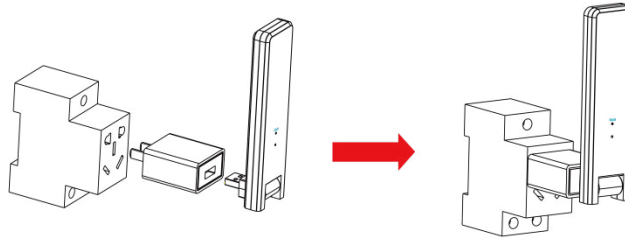

Figure 1
- a. Connect the DTU to the adapter and plug it into the wall socket (Figure 1).